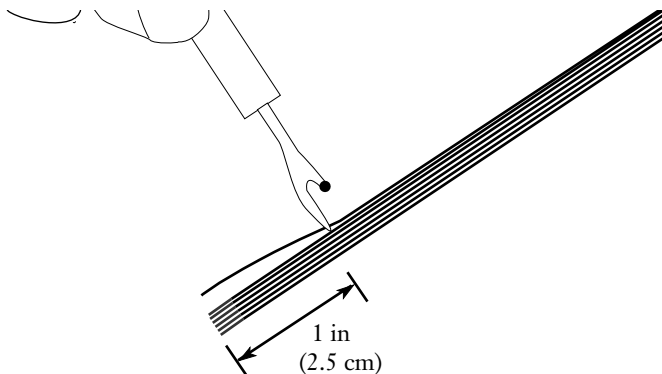

Figure 9
**6.4** Use a seam ripper to separate the fibers where you removed the bond material in step 6.3. Work the seam ripper back into the ribbon the fibers about 1 inch (2.5 cm) (Figure 9).